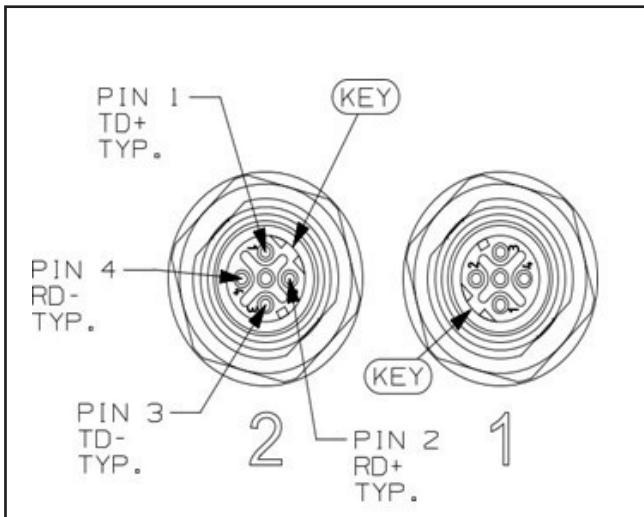

Figure 1-9 M12, 4 Pole Female D connector for In-Out ports
See figure 1-9 for M12 Communications Connectors
- In and Out ports with M12 connectors labeled “1” and “2” (Figure 1-9)